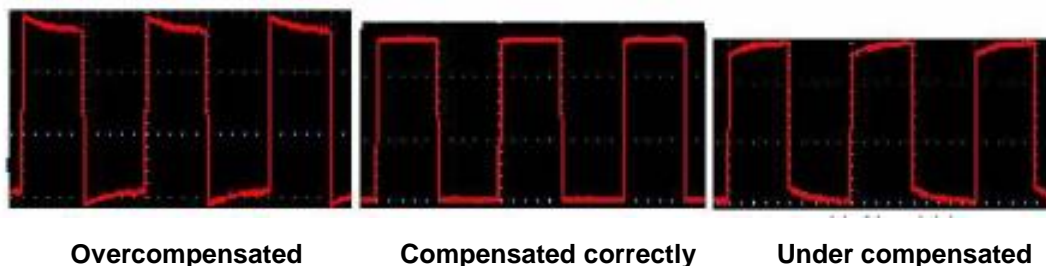
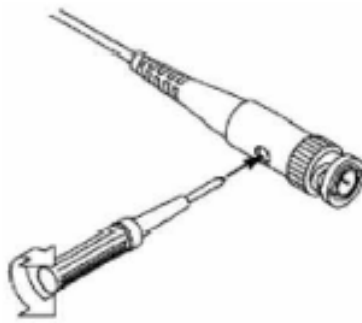

Fig. 7 Displayed Waveforms of the Probe Compensation
Fig. 8 Adjust Probe
2. Check the displayed waveforms and regulate the probe till a correct compensation is achieved (see Fig. 7 and Fig. 8).